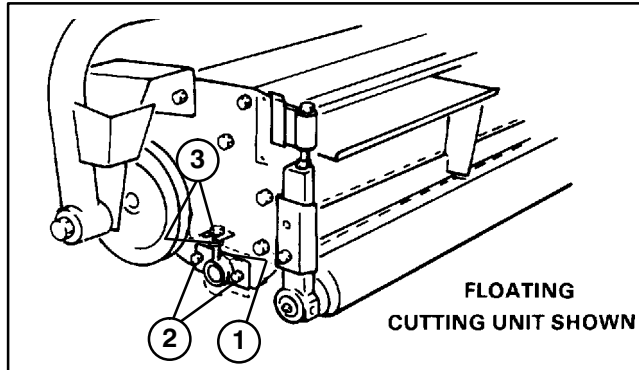

Figure 20
4. Loosen (2) carriage bolts on bedbar adjuster (Fig. 20).